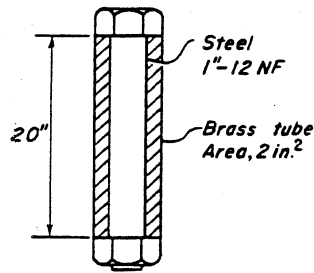

Figure 1-49 Problem 9.
9. After being drawn up snug, the nut in Fig. 1-49 is given one-quarter additional turn. Threads on both bolt and nut are hardened. Find the force in the pipe and bolt. Ans. $F = 13,750 \text{ lb}$.